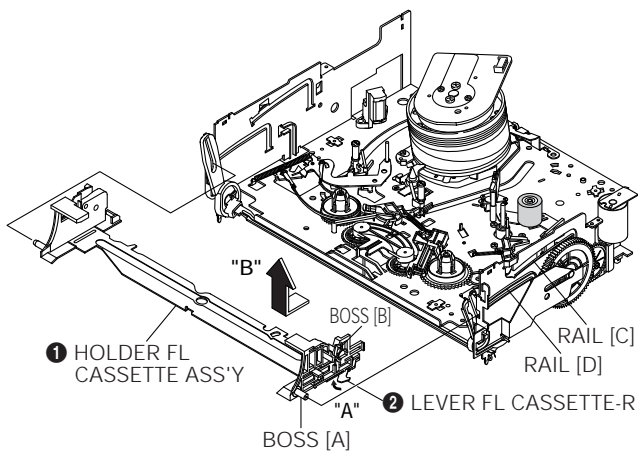

Fig. 1-6 Holder FL Cassette Ass'y Removal
- 2) Remove the Holder FL Cassette Ass'y. (Refer to Fig. 1-6)
- 3) Release the Hook ❶ in the direction of arrow "A", pull out the Lever FL Arm Ass'y ❷ from the Boss of Main Base.
- 4) Remove the Lever FL Arm Ass'y ❷ in the direction of arrow "B".